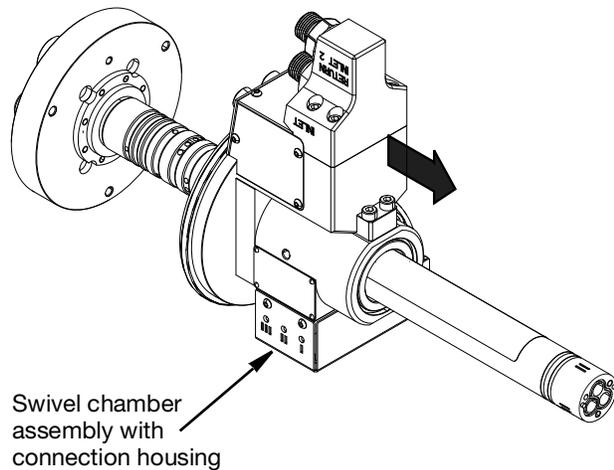

FIG. 20
9. Slide off the swivel chamber assembly with connection housing. See FIG. 20.